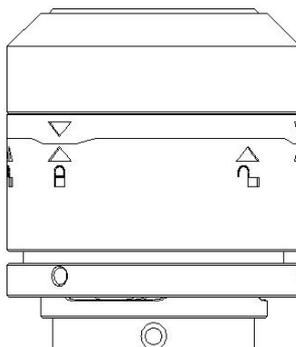

Figure 3.7 QBH locking device
- ① Keep the device clean;
- ② Install the fiber head horizontally with [QBH];
- ③ According to the [Lock] and [Unlock] marks in Figure 3.7, rotate and release QBH first, insert the fiber head and then lock it. After locking, the fiber head is placed inside the QBH without shaking.